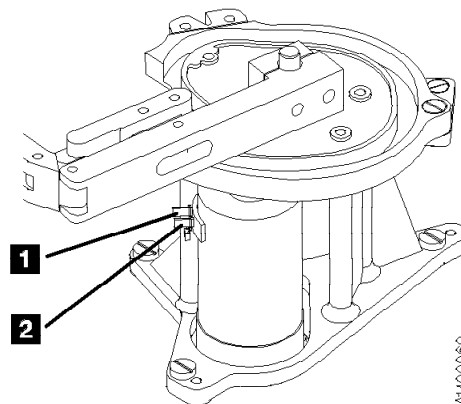

Figure 330. Pantocam Motor Connectors
4. See Figure 330. Disconnect the two pantocam motor leads: